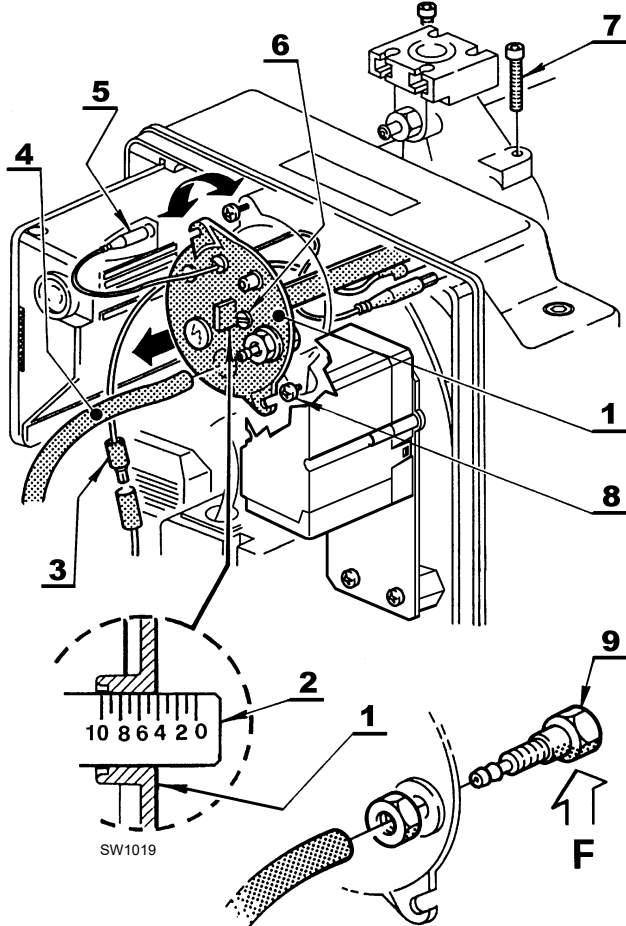

Fig. 13
It depends on the burner output and is carried out by turning the adjusting screw 6)(Fig. 13) clockwise or anti-clockwise until the notch marked on the regulating rod 2)(Fig. 13) lines up with the outer surface of the head assembly 1)(Fig. 13).
To remove the head assembly (Fig. 13) it is necessary to:
Take care not to change the setting position on the elbow-bracket (2)(Fig. 13) when dismantling.
Reassemble with the reverse procedure to that described above, repositioning the head assembly 1)(Fig. 13) as it was originally.
Screw in the screws 7)(Fig. 13) all the way without locking them.
If the pressure test point (11) should become slack accidentally(Fig. 13) we recommend fixing it correctly ensuring that the hole (F)(Fig. 13) inside the head assembly 1)(Fig. 13) is facing downwards.